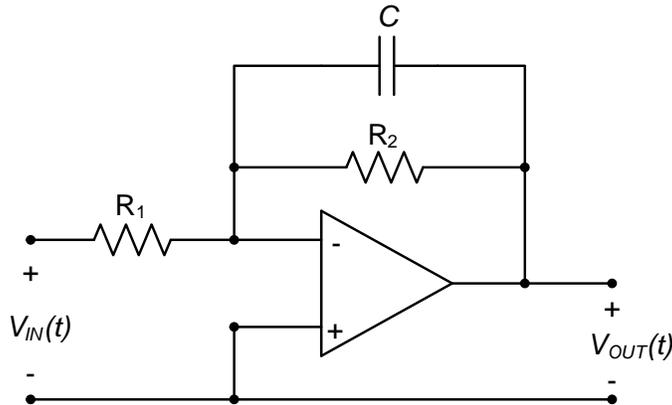

Figure 1. Inverting low-pass filter circuit.
The circuit of Figure 1 is an inverting low pass filter. The magnitude response of the circuit is
In this assignment, we will choose values of R_1 , R_2 , and C in the circuit of Figure 1 to meet design requirements set on:
- Input resistance: the input resistance is the ratio of input voltage to input current for a circuit. In the circuit of Figure 1, the input resistance essentially specifies the resistance R_1 .
- DC gain: the DC gain is, from equation (1), the ratio of R_2 to R_1 . Once R_1 is determined from the input impedance requirement, the DC gain specifies the required value for R_2 .
Design the circuit of Figure 1 (e.g. choose values for R_1 , R_2 , and C) to meet the following design requirements: